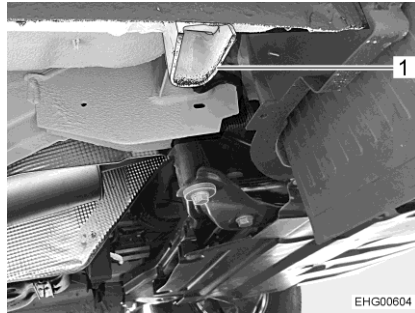

Fig. 241 Front axle mount
- If a wheel on the front axle is to be changed: apply the vehicle jack on the jacking point provided for this purpose (Fig. 241,1).